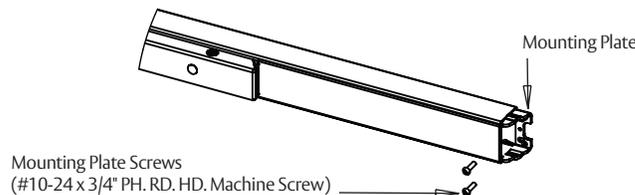
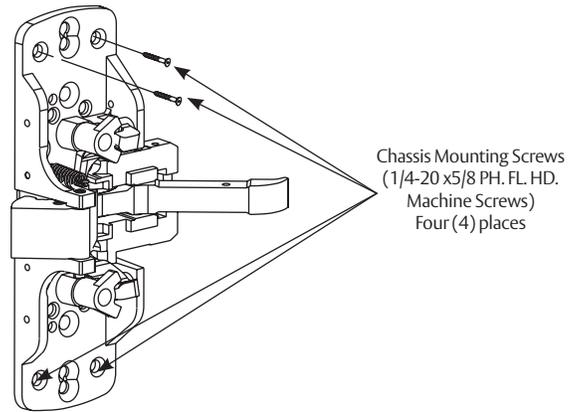

Figure 7
Figure 8
3. Secure chassis to door with four (4) #10 flat head screws. (Figure 8)
5. Place mounting plate tight against rail and attach to door with two (2) #10 round head screws.
6. Tighten all screws securely (Figure 7).